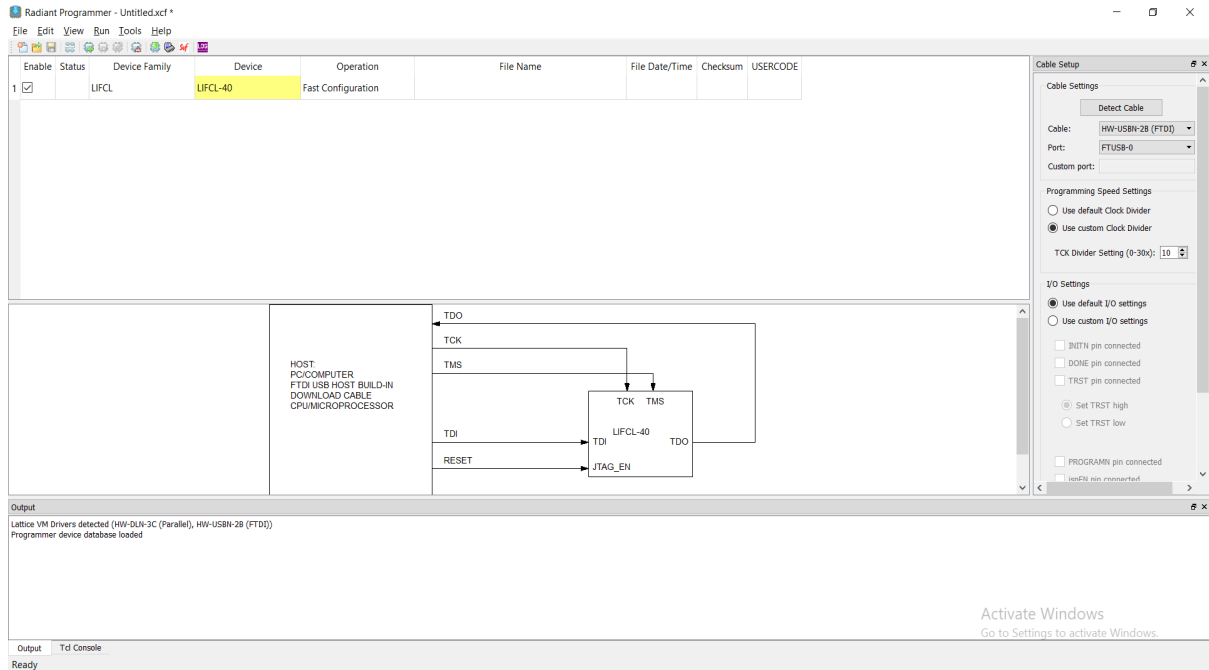

Figure 3.5. Radiant Programmer Window
4. The main interface opens as shown in Figure 3.5.